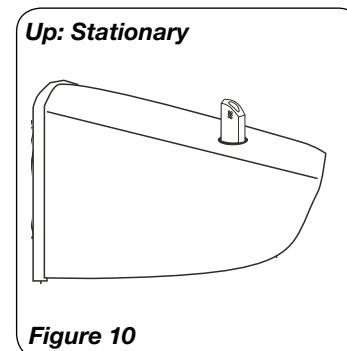

Figure 10
5. **OSCILLATION:** Push down oscillation knob on motor housing to make fan head move from side to side. (Figures 10 and 11)